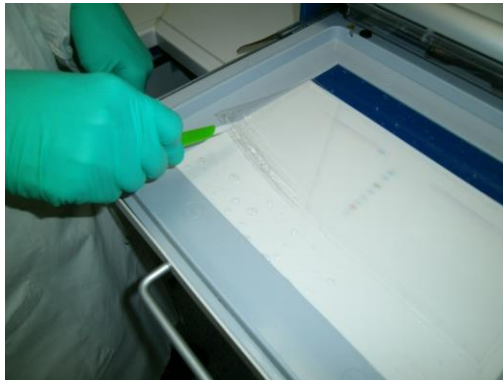

Fig. 10
- Carefully remove HPE™ BlotGel with backing film from the cooling plate (Fig 10).